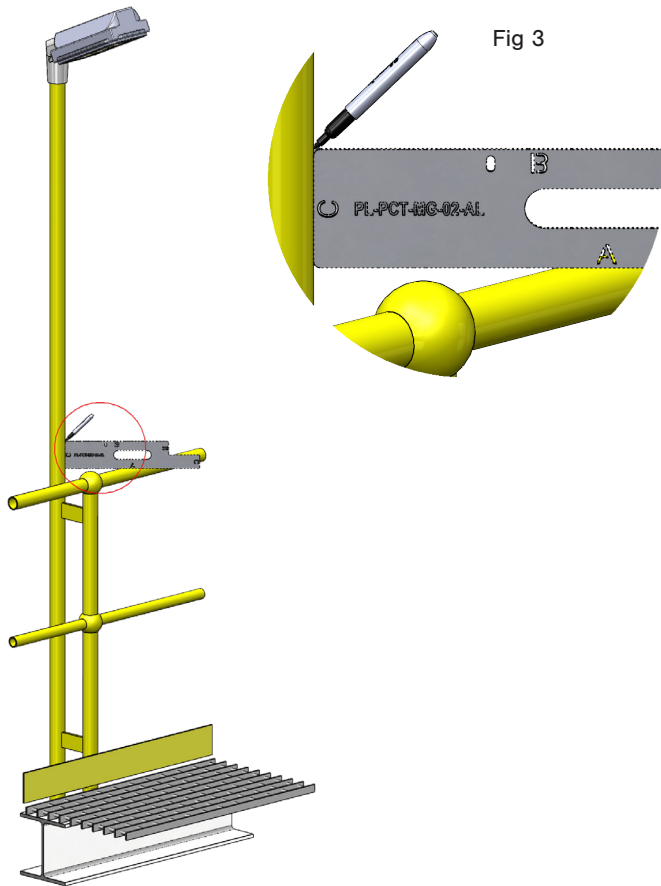

Fig 3
- ☐ Hold marking tool horizontally, resting Edge 'A' on top of the handrail, with Edge 'C' against the pole, follow along Edge 'B' and mark the cut. (Fig 3)